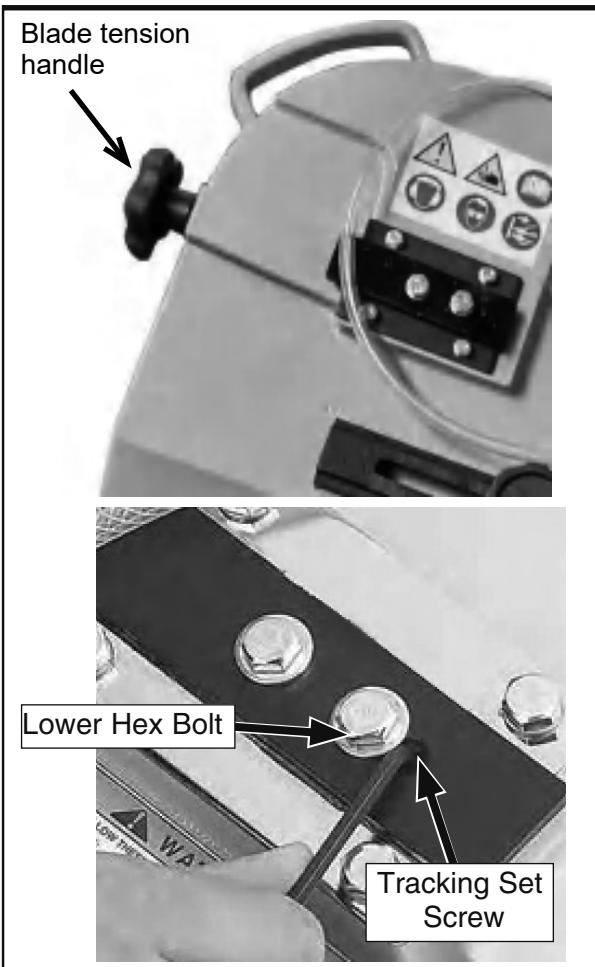

Figure 28 Blade tension / tracking controls.
6. Adjust set screw with a 4mm hex wrench **Figure 28**.